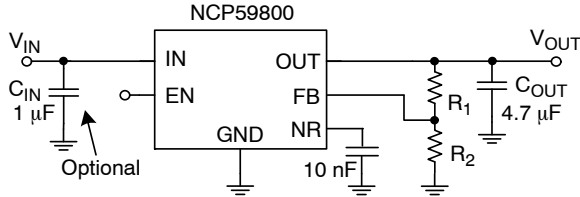

Figure 3. Typical Application Schematics
The NCP59800 regulator is equipped with Noise Reduction pin (NR) for noise sensitive applications. A noise reduction capacitor (CNR) at the NR pin bypasses noise generated by the bandgap reference. This family of regulators offers sub-bandgap output voltages, current limit, and thermal protection, and is fully specified from -40°C to +125°C, assuming resistors with zero error. For the actual design, pay attention to any resistor error factors. Figure 3 gives the Typical Application Schematics.